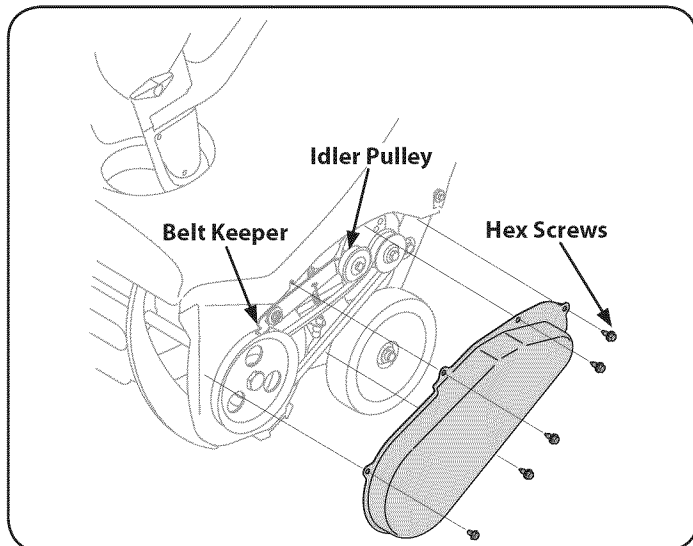

Figure 18
1. Remove the belt cover by removing the five hex screws that secure it to the frame. See Figure 18.
NOTE: Push down on the idler pulley to release the belt from under the belt keeper. See Figure 18.